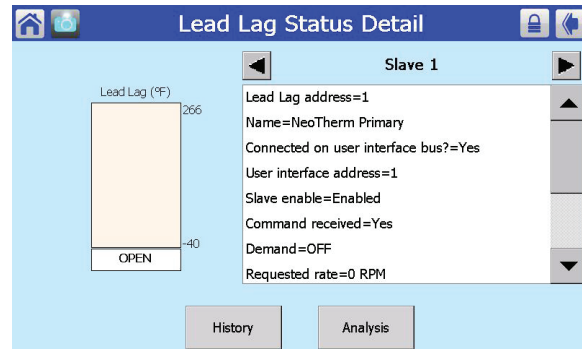

Fig. 126 – Typical Details Screen
- If you press the Details button, the control software will present a screen similar to this (Fig. 126).